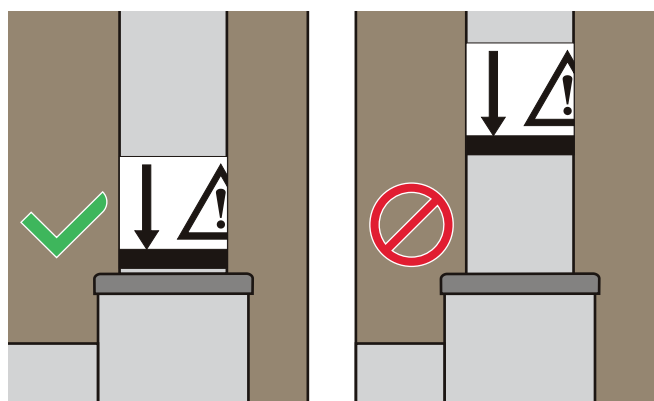

Figure 2
3. When the lifting pole is correctly installed the indicator line is level with the top of the socket. See Figure 2.